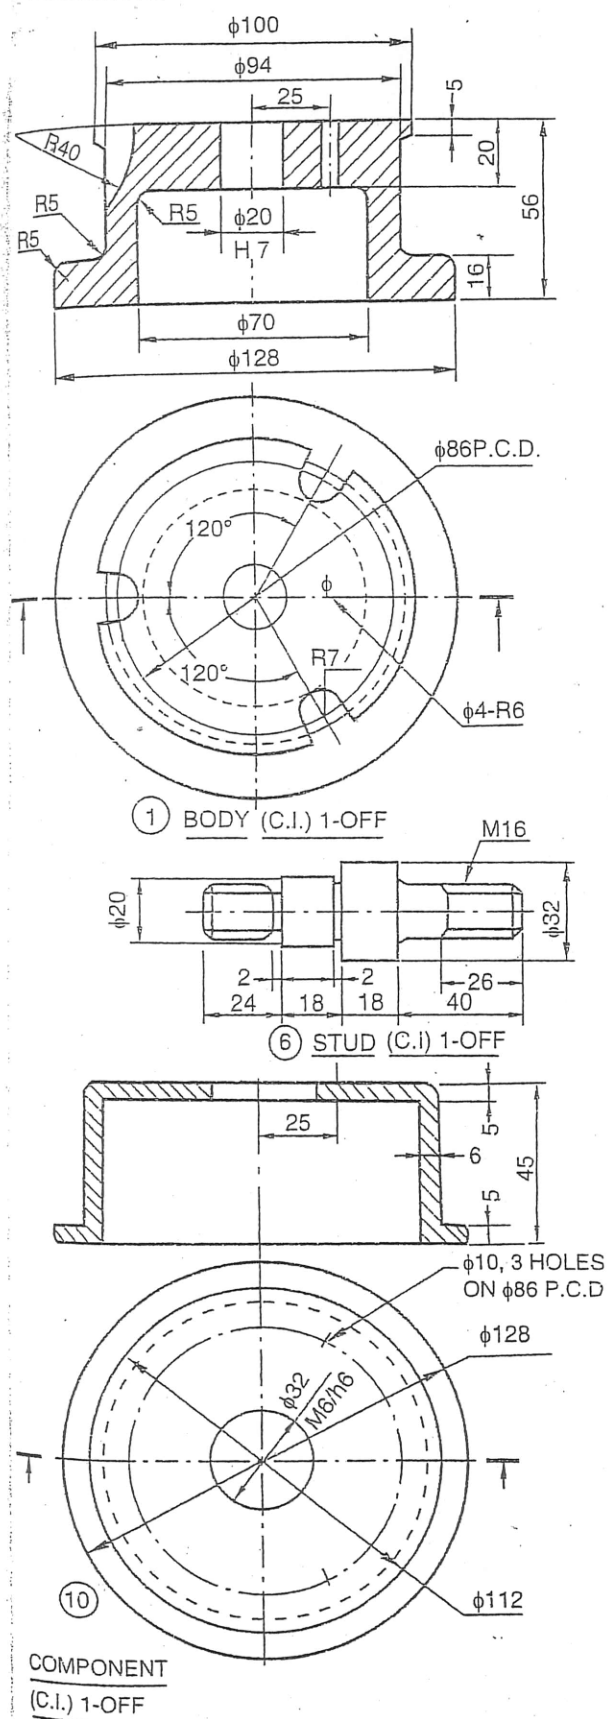

Fig.6 Drilling Jig
Q.7 Fig. 6 shows details of the Drilling Jig, assemble all the parts and draw the following for the assembly:-